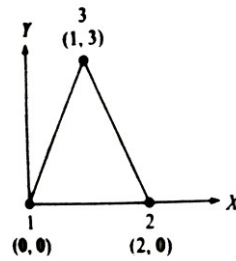

Figure 2
6. Derive the element stiffness matrix for triangular element and thus find the matrix element for the triangular element as shown in figure 2. [10]